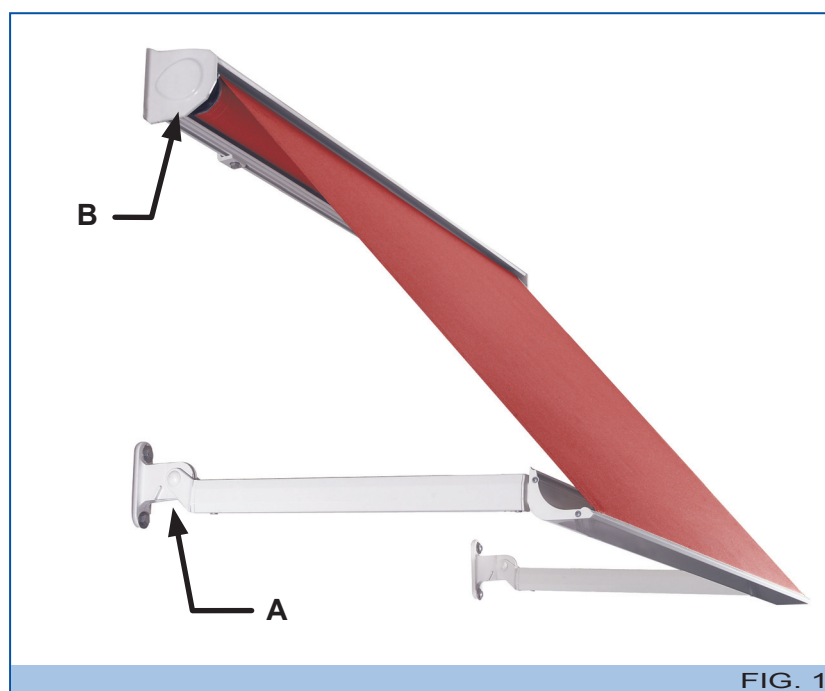

FIG. 1
Open and close the awning using the supplied rod (A - Fig. 1) and crank (B - Fig. 1).
- The joint of the awning inclination arms (if fitted) (A - Fig. 1).
- The cover on the part opposite the control (motor, crank-rod or return spring) (B - Fig. 1).